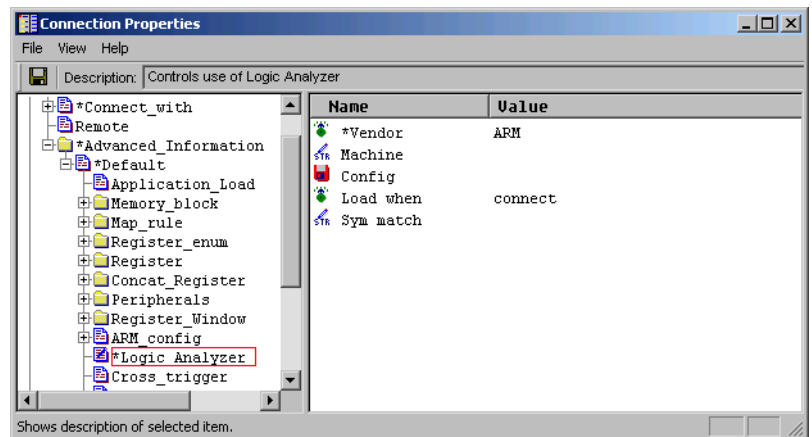

Figure B-4 Connection Properties window show Logic_Analyzer settings
- e. Click on the Logic_Analyzer item. The Logic_Analyzer settings are displayed in the right-hand pane, as shown in Figure B-4.